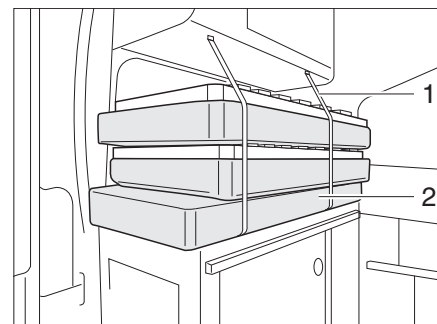

Fig. 49 Dismantling Variant 2
- Stack the cushions, mattresses and slatted frames (Fig. 49,2) onto each other.
- Secure everything using the belt (Fig. 49,1).